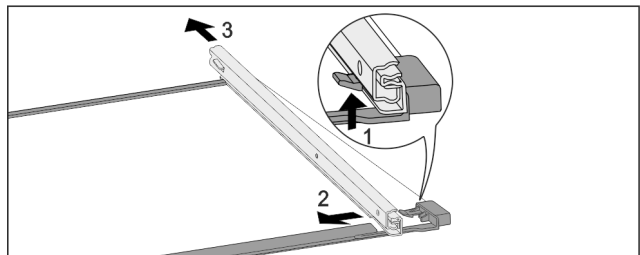

Fig. 82 Glass shelf with rails
- ▶ Push up front click-in hooks. Fig. 82 (1)
- ▶ Slide pull-out rails to the side Fig. 82 (2) and backwards Fig. 82 (3).